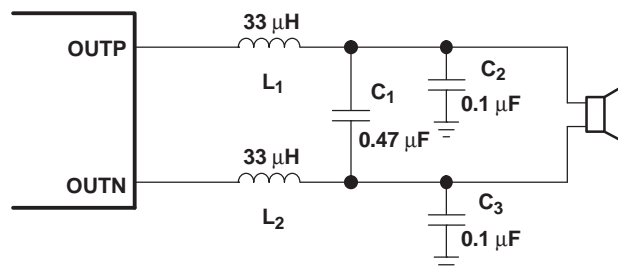
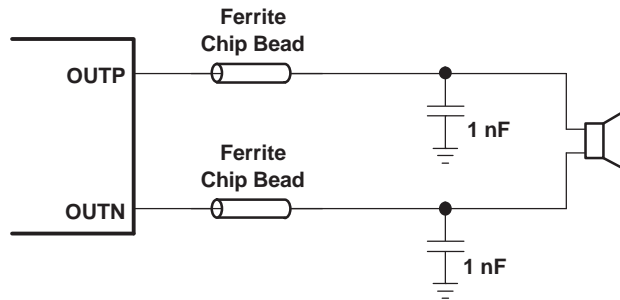

Figure 19. Typical LC Output Filter, Cutoff Frequency of 27 kHz, Speaker Impedance = 8 Ω
Figure 20. Typical Ferrite Chip Bead Filter (Chip bead example: Fair-Rite 2512067007Y3)
- Output filter—The ferrite EMI filter (Figure 20) should be placed as close to the output terminals as possible for the best EMI performance. The LC filter (Figure 19) should be placed close to the outputs. The capacitors used in both the ferrite and LC filters should be grounded to power ground. If both filters are used, the LC filter should be placed first, following the outputs.